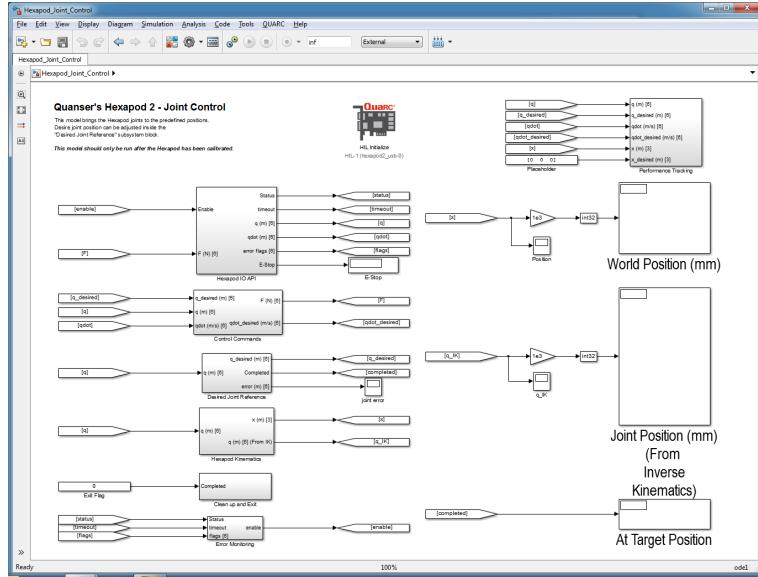

Figure 2.3: Simulink model used to command joint-level positions to the 6 DOF Hexapod using QUARC.
This Hexapod_Joint_Control.mdlcontroller shown in Figure 2.3 applies position commands to the base-level linear actuators. The user can specify the amplitude and frequency of the sine wave on-the-fly and read corresponding position measurements.
3. Open the Simulink model called Hexapod_Joint_Control.mdl, shown in Figure 2.3.